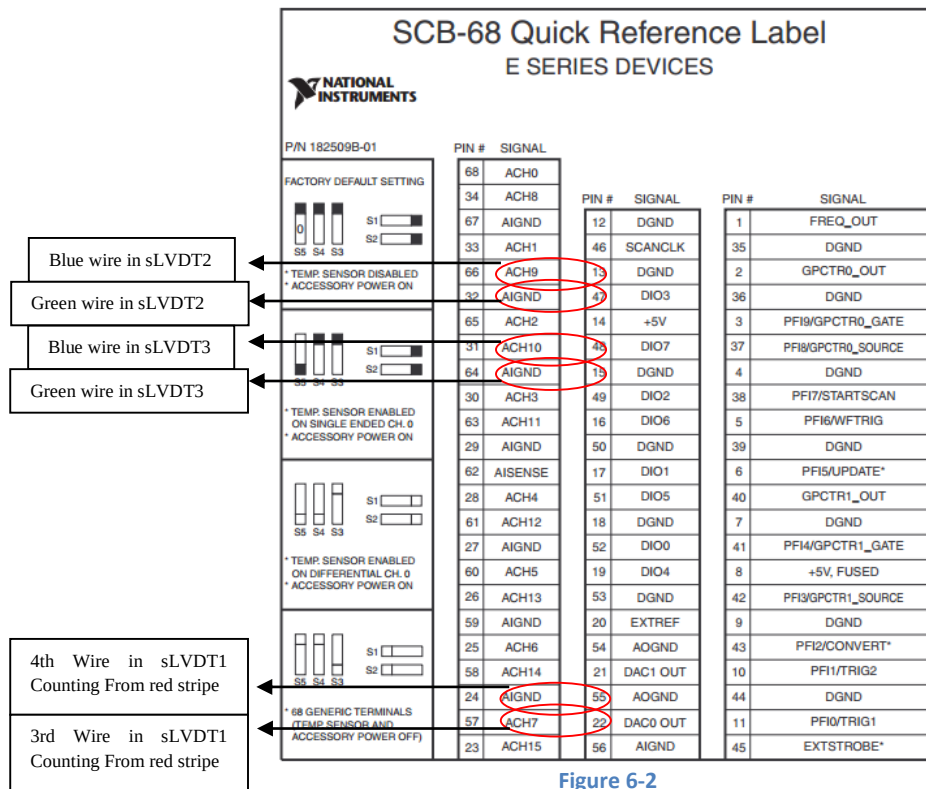

Figure 6-2
2. Then connect the sLVDT to the NI data acquisition box, the SCT-68 68-Pin Shielded Connector Block. The third and fourth wire of sLVDT1 (counted from the red-strip wire) and the yellow/ blue of the sLVDT 2 and 3 are connected to the analog input of the NI SCB-68 as shown in Figure 6-2. The fifth wire of sLVDT1 was not used for the installation purposes and therefore it was cut short. Table 6-1 listed channel number and wire information of the three sLVDTs.